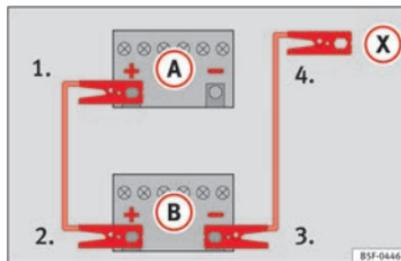

Fig. 208 Diagram of connections for vehicles without Start-Stop system.
2. Connect one end of the red jump lead to the positive (+) terminal of the vehicle with the flat battery (A) ⇒ Fig. 208.
3. Connect the other end of the red jump lead to the positive terminal (+) in the vehicle providing assistance (B).
4. **For vehicles without Start-Stop system:** connect one end of the *black* jump lead to the negative terminal  on the battery of the vehicle providing assistance  ⇒ Fig. 208.